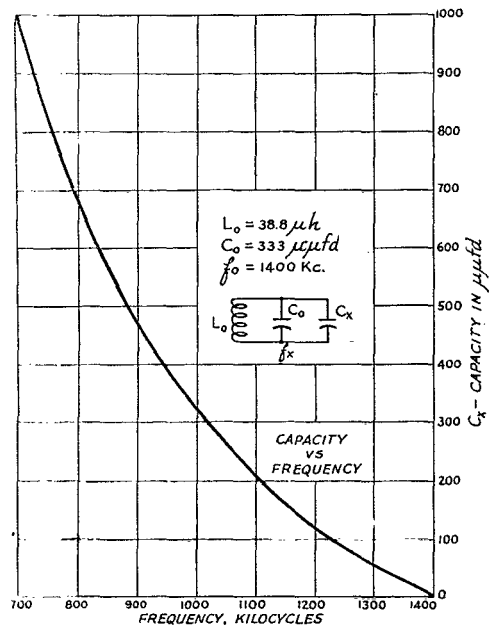

Fig. 9 — Capacity calibration curve.
Either Eq. (8) or (9) may be plotted as a curve, f_x vs. C_x , and the unknown capacity read directly from the frequency with the unknown in the circuit. Such a curve is shown in Fig. 9 and applies only to the author's apparatus where the following conditions hold: